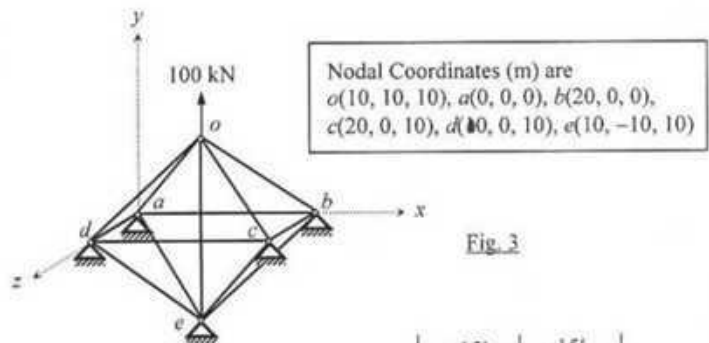

Fig. 3
3. For the frame shown below in *Fig. 3*, calculate joint deflections and rotations considering boundary conditions and neglecting axial deformation [Given,  $E = 500 \times 10^3 \text{ ksf}$ ,  $A = 1 \text{ ft}^2$ ,  $I = 0.10 \text{ ft}^4$ ].
3. Ignore zero-force members to form the stiffness matrix, load vector and write down the boundary conditions of the 3D truss *oabcde* shown in Fig. 3